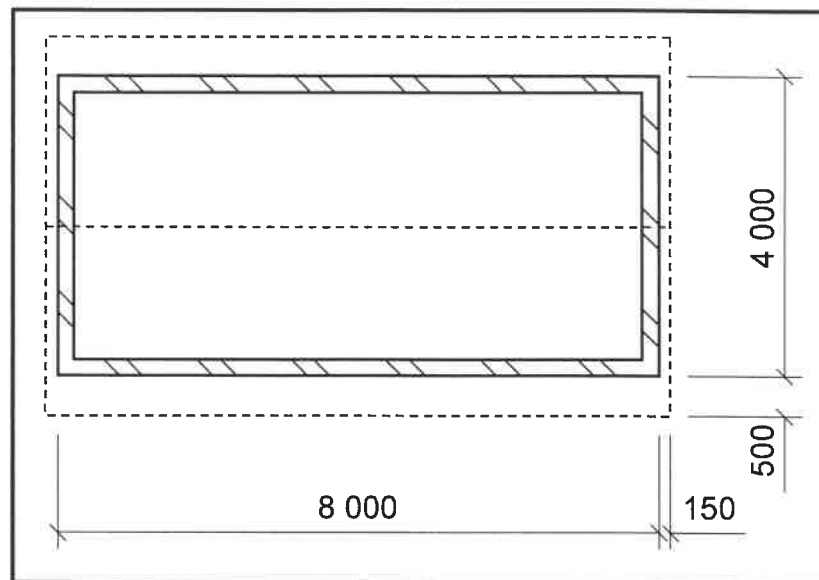

FIGURE 3.3
- 3.3 FIGURE 3.3 below shows the floor plan of a building with a gable roof. The external measurements are 8 000 mm x 4 000 mm.